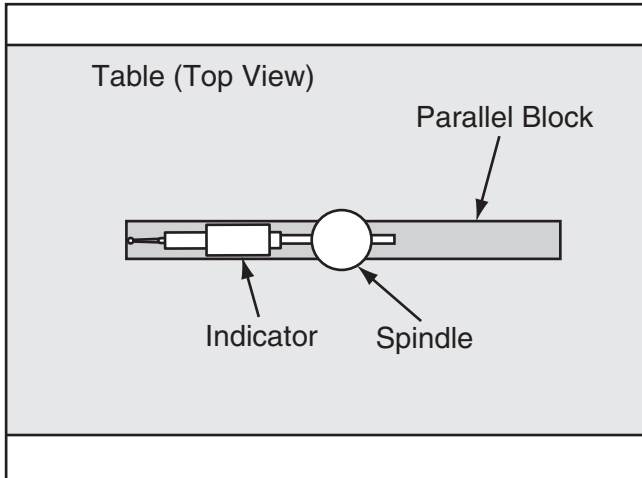

Figure 78. Parallel block and indicator positioned for the X-axis measurement (top view).
- To measure spindle alignment along X-axis, place parallel block directly under spindle and indicator across length of table, as illustrated in **Figure 78**.